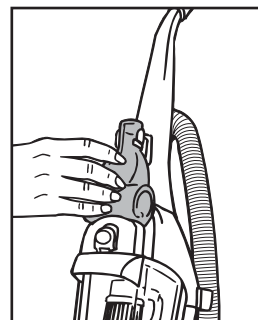

Fig.3/6
4. **V-041 only:** Push the handle plug on to the front of the vacuum cleaner (Fig.3/4A). **V-042 only:** Push the blanking plug on to the front of the vacuum cleaner (Fig.3/4B).